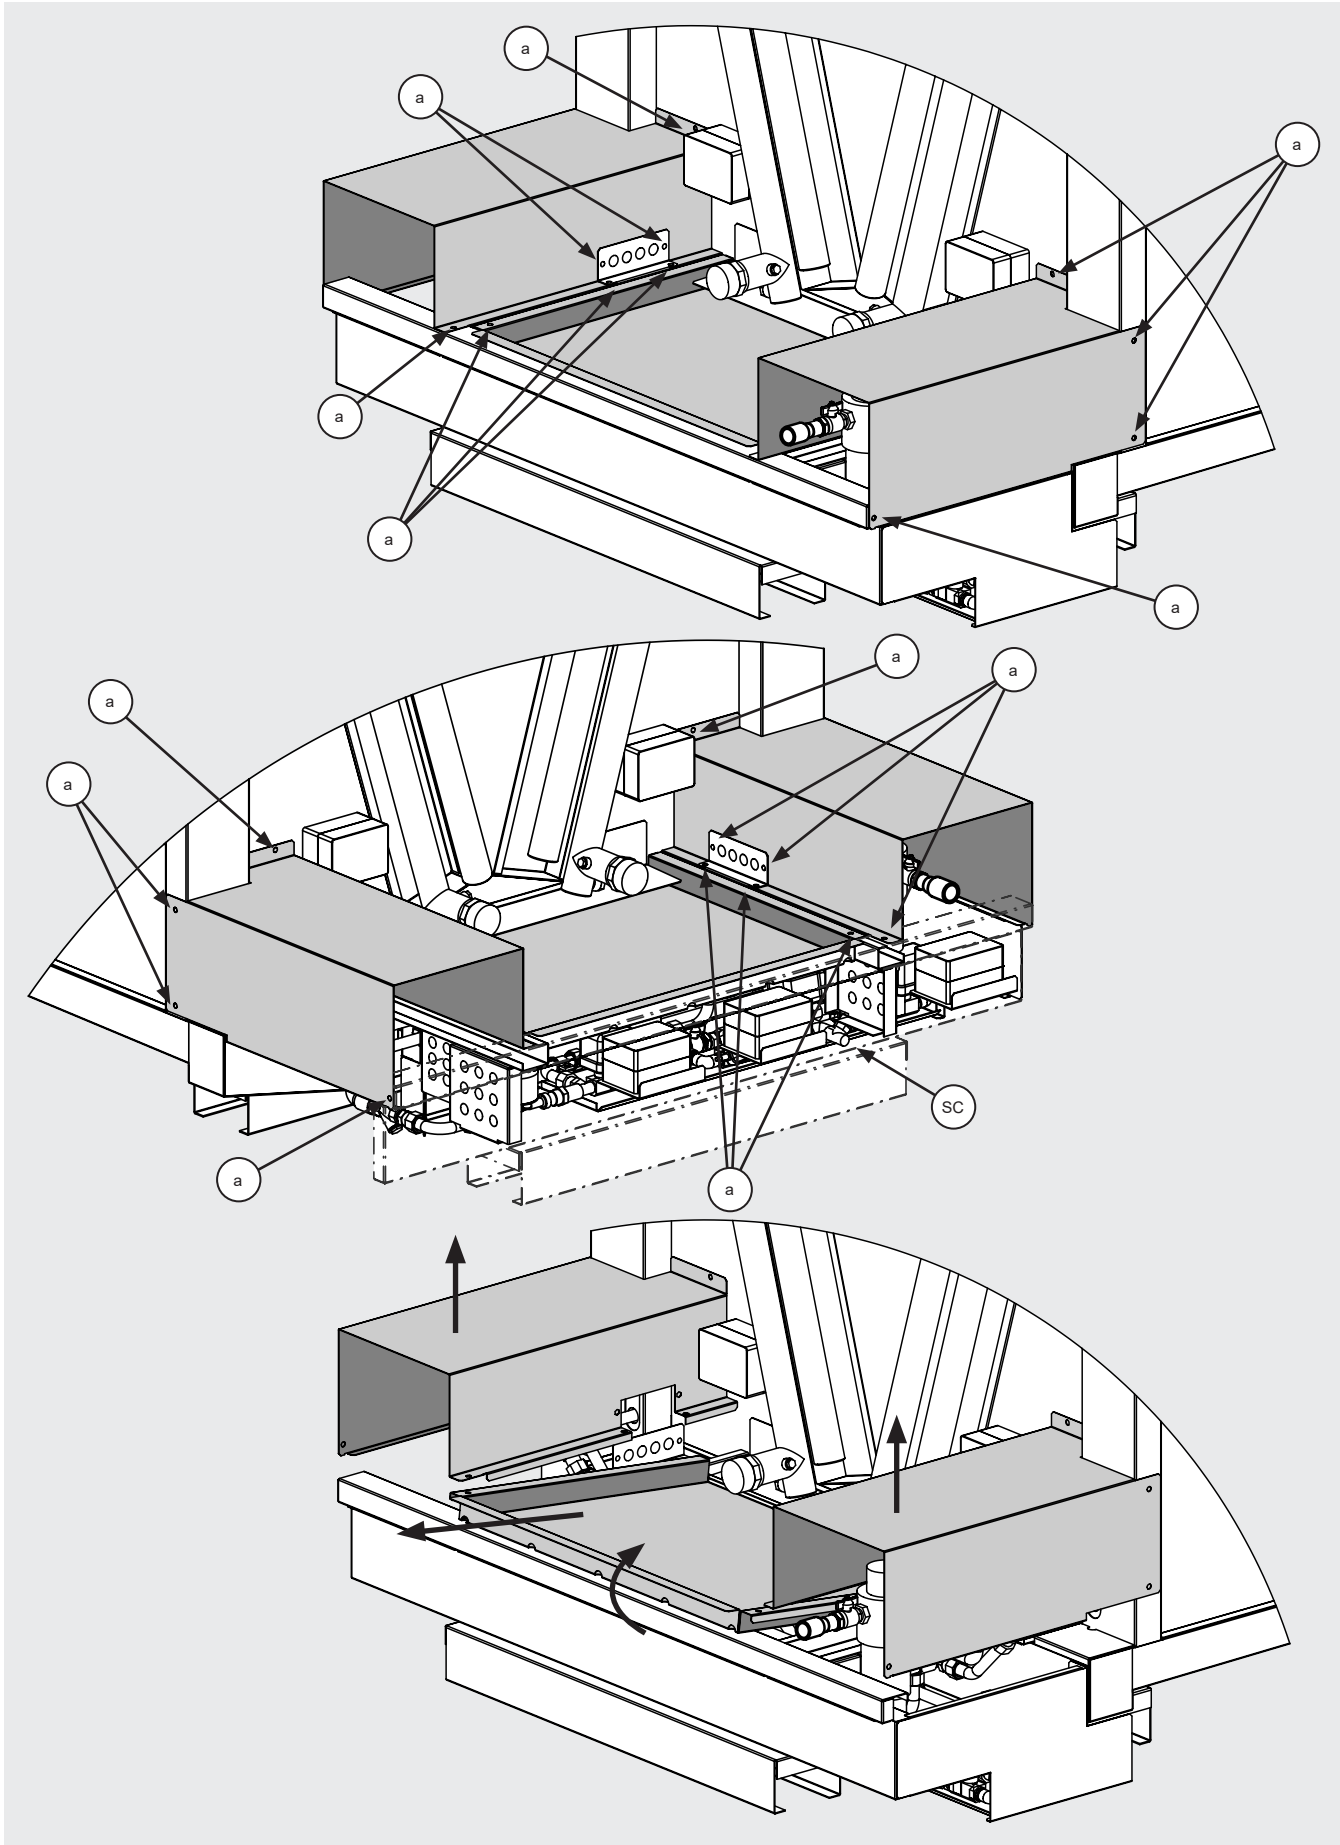

Figure 23
12.11.4 Wait until the emptying of the adiabatic circuit has been completed. As soon as the model is switched off, all normally open solenoid valves (see point 2.9) open and the circuit drains through the connection (SC), see Figure 23.
12.11.5 Stand at the front of the model and unscrew the screws (a) securing the 3 covers protecting the external adiabatic circuit, see Figure 23.
- 12.12.7 Wait until the emptying of the adiabatic circuit has been completed. As soon as the model is switched off, all normally open solenoid valves (see point 2.9) open and the circuit drains through the connection (SC), see Figure 23.
- open solenoid valves (see point 2.9) open and the circuit drains through the connection (SC), see Figure 23.
- 12.18.5 As soon as the model is switched off, all normally open solenoid valves (see point 2.9) open and the circuit is partially discharged through the connection (SC), see Figure 23.